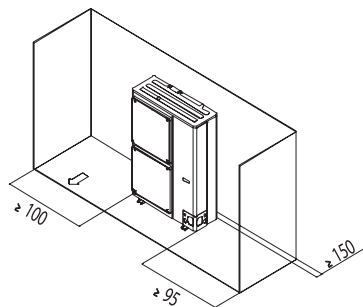

Figure 2
- Obstacles exist at the both sides (see Figure 2)